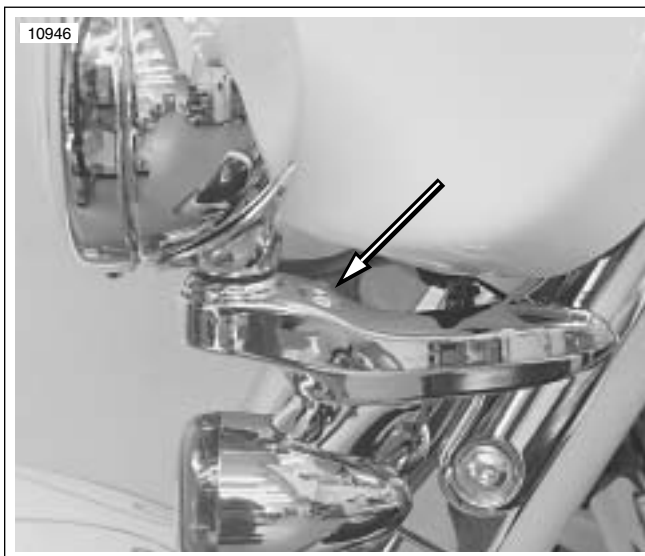

Figure 8-13. Front Turn Signal Fastener Location
4. See Figure 8-13. Remove fastener to release turn signal lamp from mounting bracket.